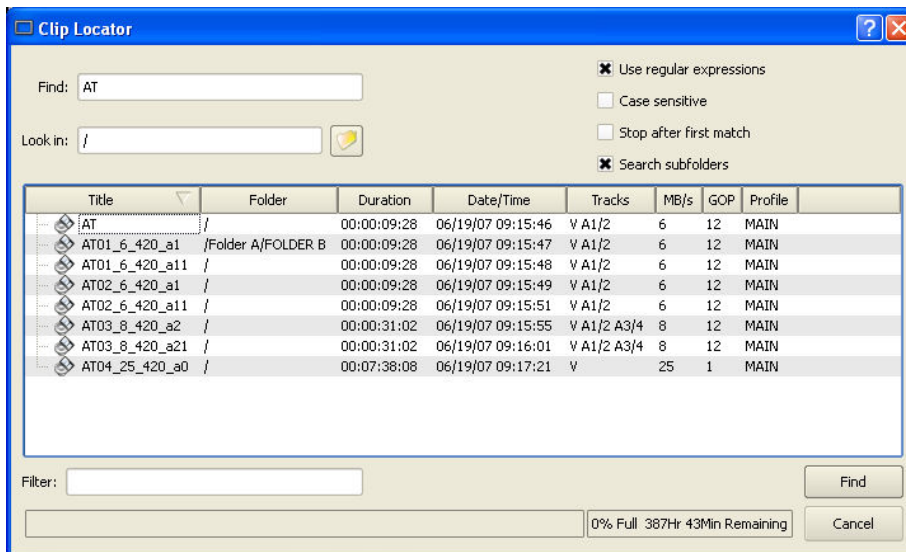

Figure 20 - Clip Locator
- A. Click **SHOW > FIND CLIPS**. The Clip Locator screen of Figure 20 appears.